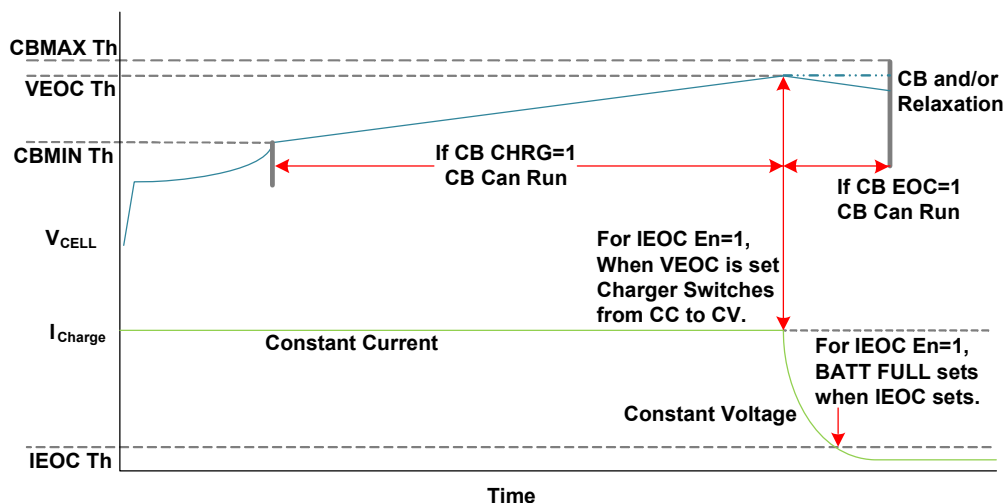

Figure 106. A Typical Charge Characteristic Curve
The RAA489206 has features that support both Constant Current (CC) and Constant Voltage (CV) charging. A typical charging profile for a battery cell is depicted in Figure 106. Cell balancing can occur only when the cell voltage is between the CBMIN and CBMAX limits, which are independent of CB EOC and CB CHRG bit settings.